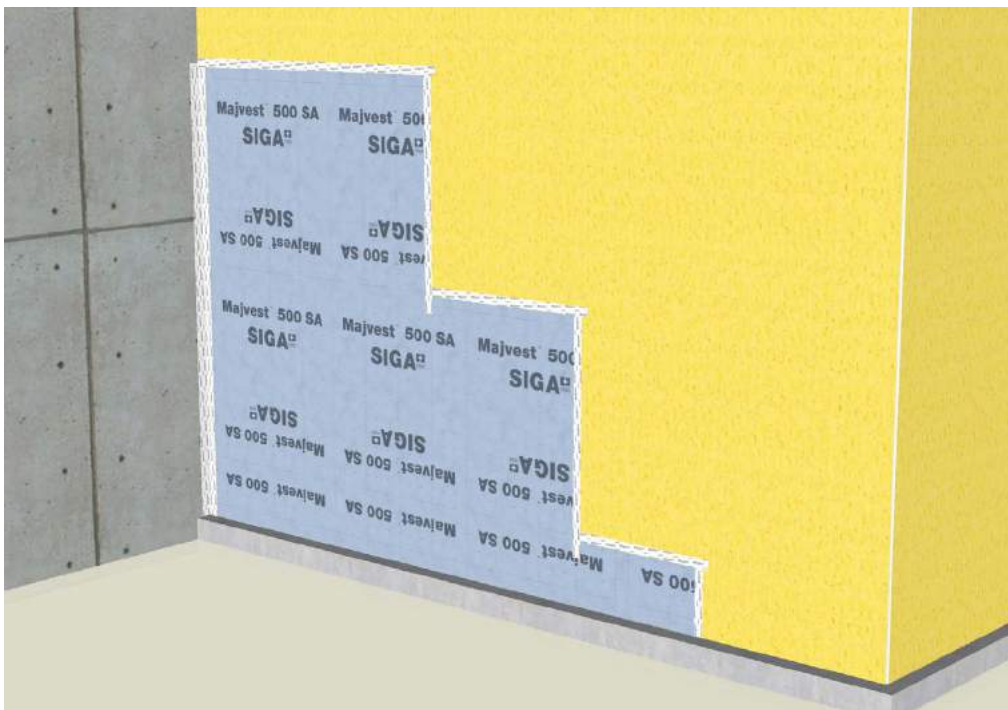

Figure 3
- provide temporary weather protection for leading edges of Majvest 500 SA on any unfinished wall fields where membrane application has begun (Figure 3)